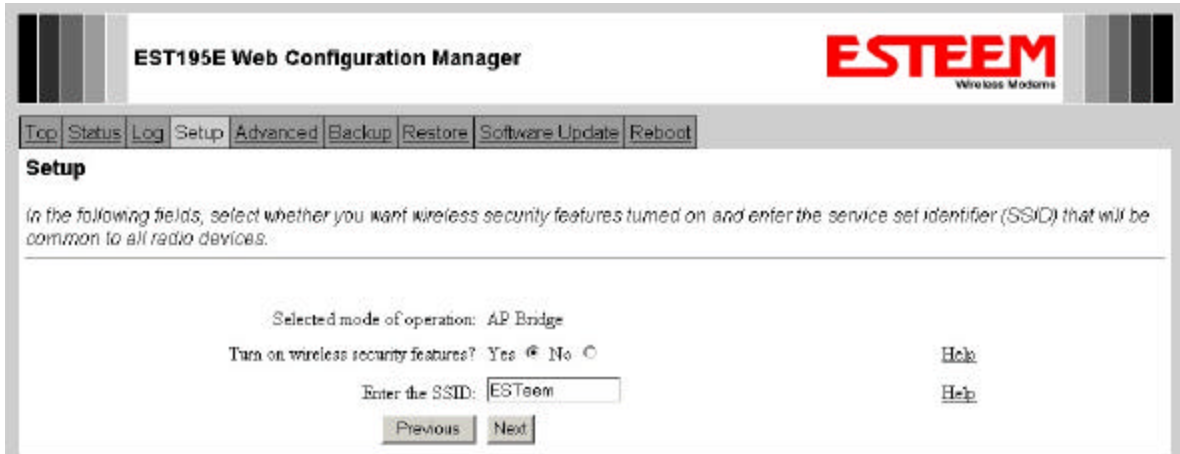

Figure 6: SSID Setup Screen
9. Select if you will be using security for your wireless network. Enter the SSID for your 802.11g network. The SSID is the unique identification for your wireless network and all 802.11g devices that share a wireless network MUST have the same SSID code. This identification code is case sensitive and must NOT contain spaces. Reference Figure 6.